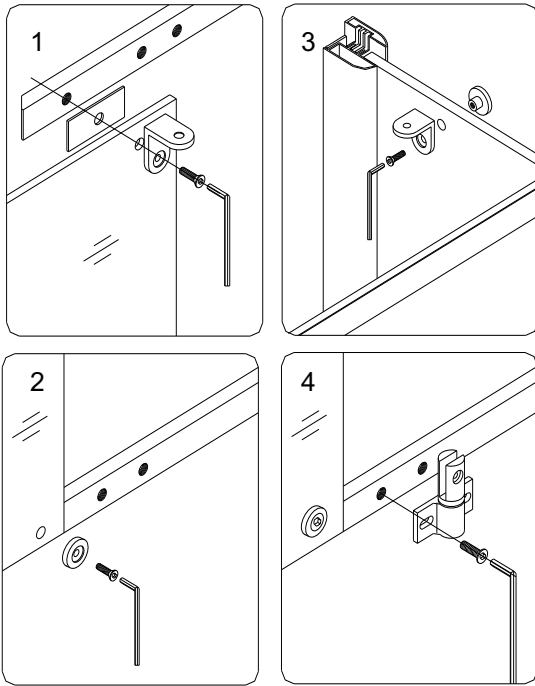

Fig. 17
11. Locate the Top **L-Pivot bars (07)** and the **Brackets (09)**. Refer to Fig 17.1 to secure them onto the glass panels with the **Socket head bolts M8×20 (30)**. Refer to fig. 17.2 to install the bottom **L-Pivot** bar with the **Socket head bolts M8×20** and **Washers (31)**. Please note that the clear rubber **Gasket (28)** should be placed in between the glass and metal to prevent glass damage. Refer to Fig 17.3 to attach the third **Bracket (09)** onto the wide stationary glass panel using **Flat head bolt M6×16 (33)** and **Ø30 head nut (34)**. Refer to Fig 17.4 to fasten the **Pivot assemblies (08)** with **Socket head bolts M8×14 (29)** onto the L-Pivot bars. See Fig 17&18 for details.